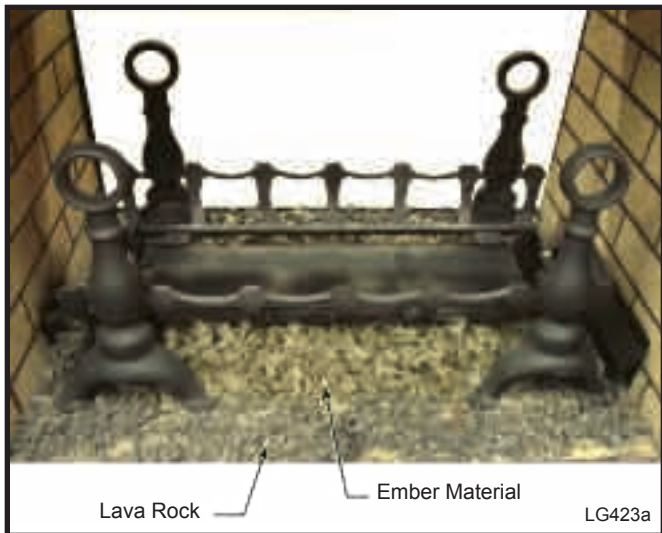

**Fig. 42** Ensure fettle is securely attached to the burner housing and set andirons in place.
1. Ensure the four (4) screws that attach the fettle to the burner are secure.
2. Set the andirons in place by hooking the tabs on the back of the andirons over the webs of the fettle. (Fig. 42) Repeat process for andirons on both sides of burner.